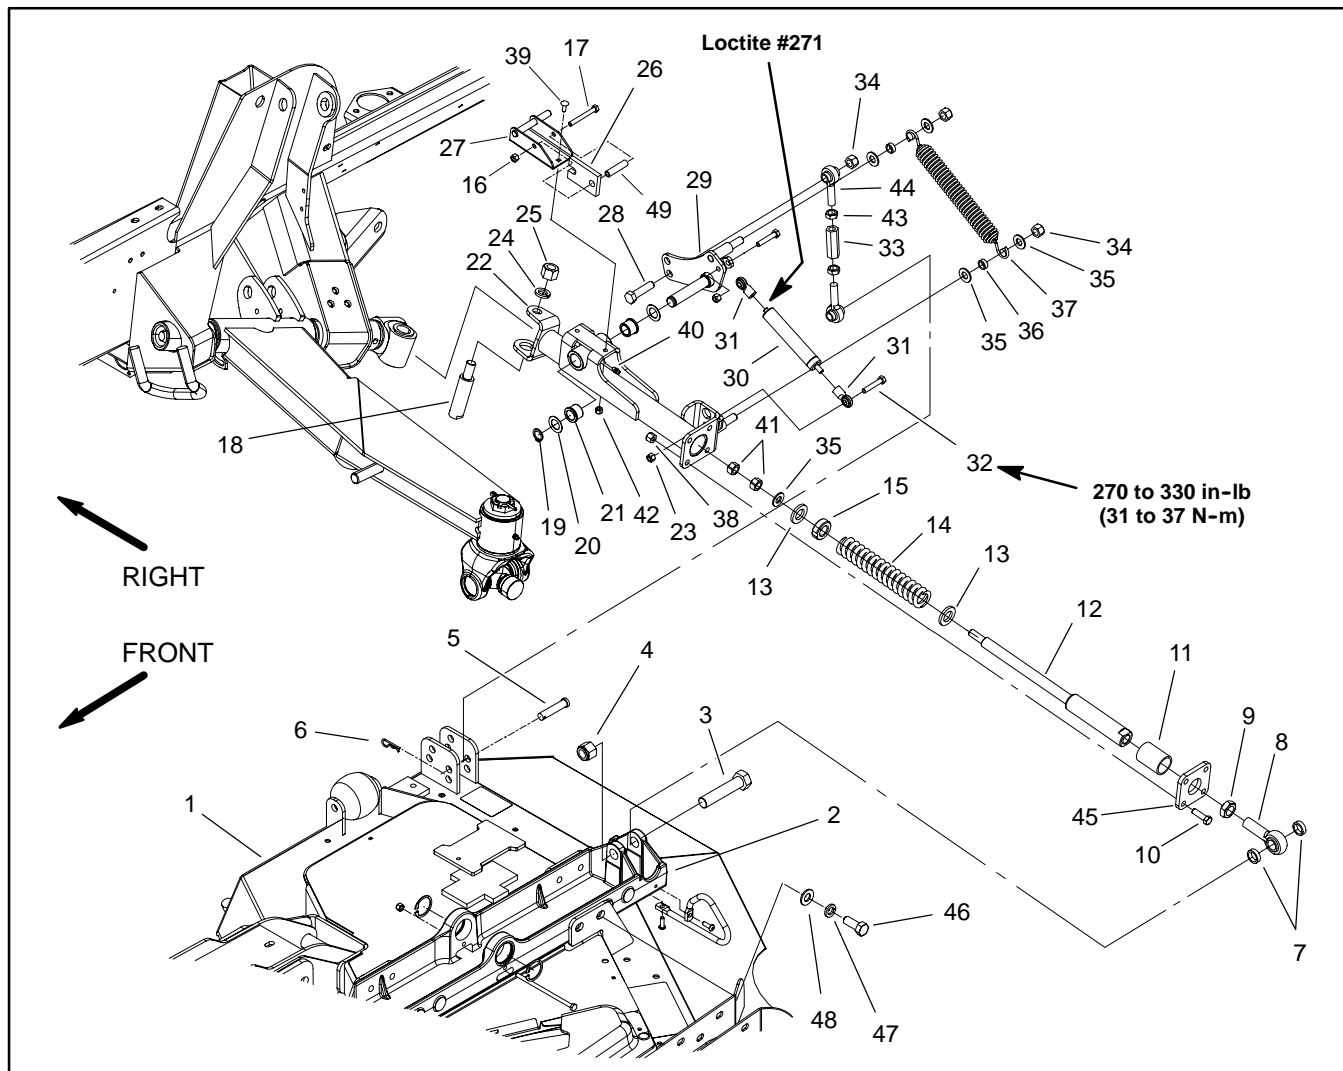

Figure 8
### Rear Arm Removal (Fig. 8)
### Rear Arm Disassembly (Fig. 8)
1. Disassemble rear arm assembly using Figure 8 as a guide.
### Rear Arm Assembly (Fig. 8)
### Rear Arm Installation (Fig. 8)